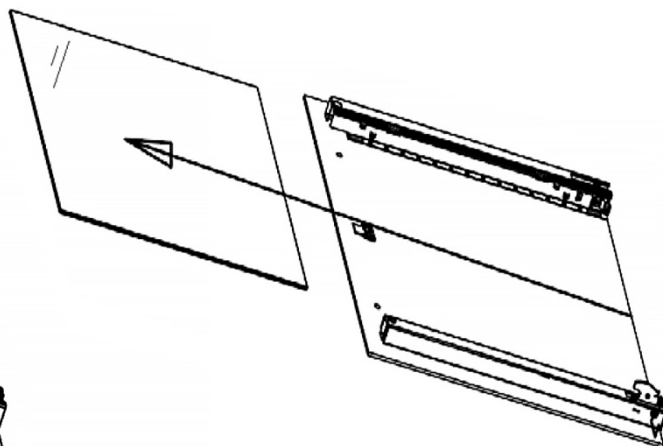

Fig.6
4. Slide out middle pane of glass carefully. (Fig.6)